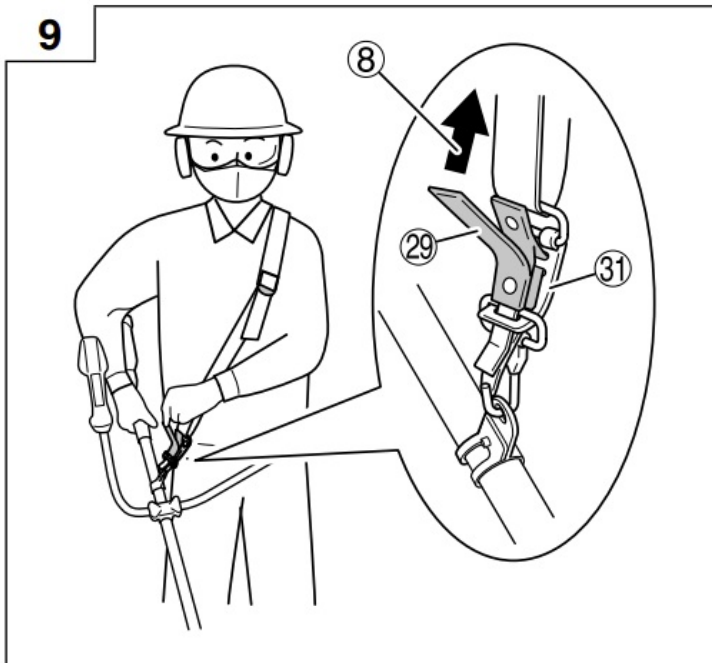

Fig. 9
2. To remove the tool from the shoulder belt, support the tool by holding the main pipe with one hand and use the other hand to pull the quick-release belt as shown in **Fig. 9** to free it from the bracket.